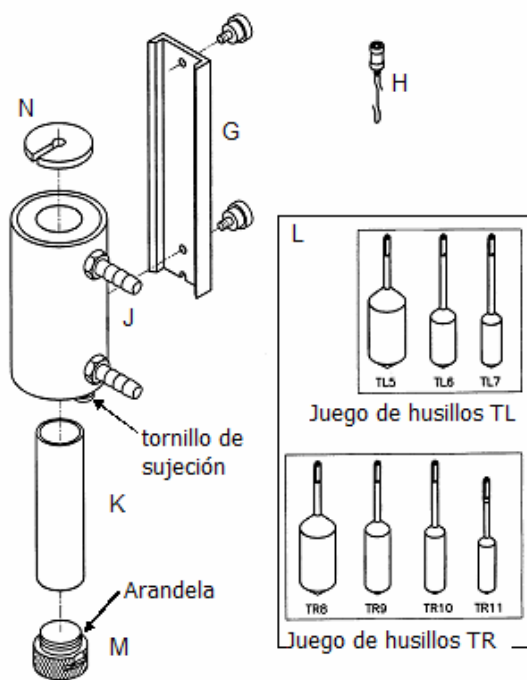

Fig. 11 APM accessory parts
- Fasten the circulation jacket (J) to the connector (G) (figure 11).
- Fasten the connector (G) to the hole at the back of the viscometer metallic vase.
- Connect the hook (H) and the spindle (L).
- Insert the spindle (L) in the circulation jacket, and screw it in to the viscometer axle by turning it clockwise.
- Close the sample (K) container with the bottom stopper (M).
- Insert the sample container (K) by turning it gently, in the circulation jacket (J). Insert the screw (L) in the lower stopper (M), and screw it to the viscometer axle by turning it counter-clockwise.
- Place the upper stopper (N) over the sample container.